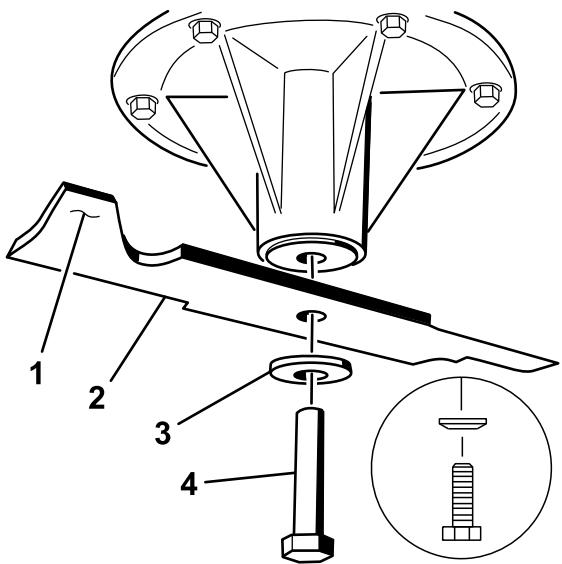

Figure 82
1. Install the blade onto the spindle shaft (Figure 82).
2. Install the spring disk and blade bolt (Figure 82).
Note: The spring-disk cone must be installed toward the bolt head (Figure 82).